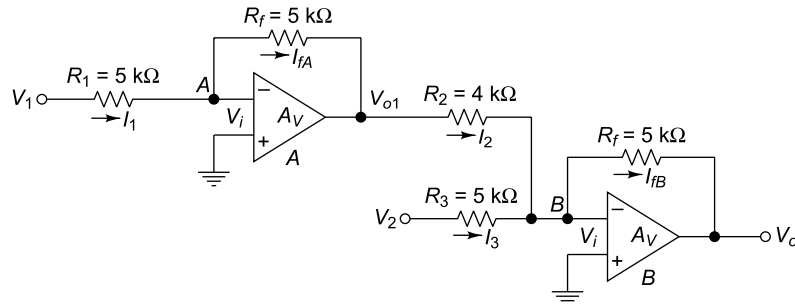

Fig. 5.21 Circuit of Ex. 5.10
5.10 Determine the output voltage V_o for the operational amplifier circuit as shown in Fig. 5.21. Assume $V_1 = 2$ V, and $V_2 = -1$ V